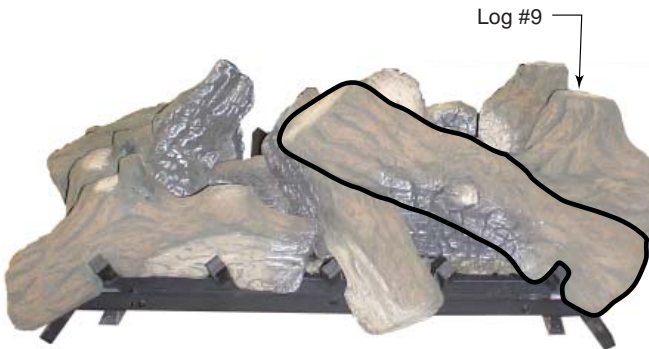

Figure 25 - Place Log #9
- Place log #9 on farthest right grate tine by aligning 'V' notch in bottom of log with grate tine. Place rectangular notch in bottom of log onto rectangular protrusion on log #8. *Figure 25*